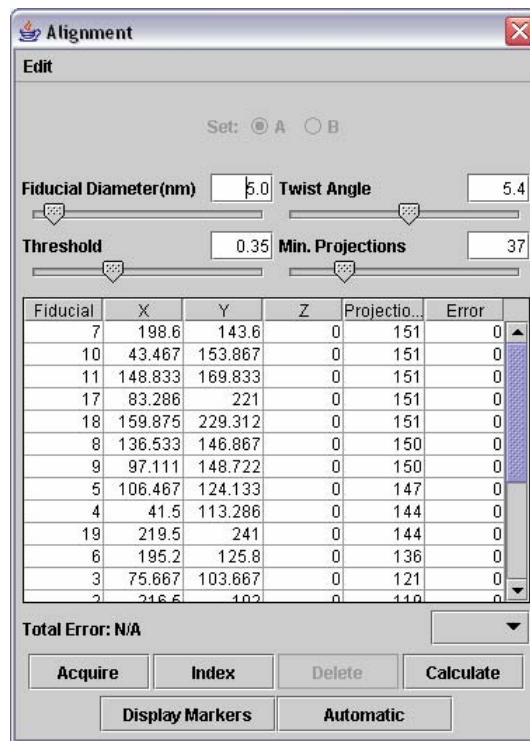
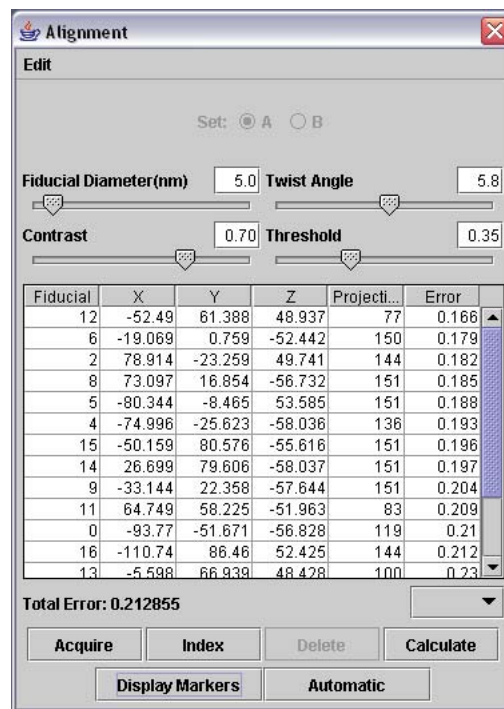

Figure 17: List of indexed fiducials sorted by Projections
Figure 18: Alignment after calculation
- **Index** - Indexing establishes a relationship between the fiducials throughout the projection series. An example: Fiducial 8 refers to the same fiducial in projection 30 and projection 90 after indexing. Indexing also generates a list of fiducials as seen in Figure 17.
- All columns in the fiducial list can be sorted in ascending or descending order by pressing the column heading. In Figure 17 the fiducials have been sorted in descending order by Projections and in Figure 18 the fiducials have been sorted in ascending order based on Error.